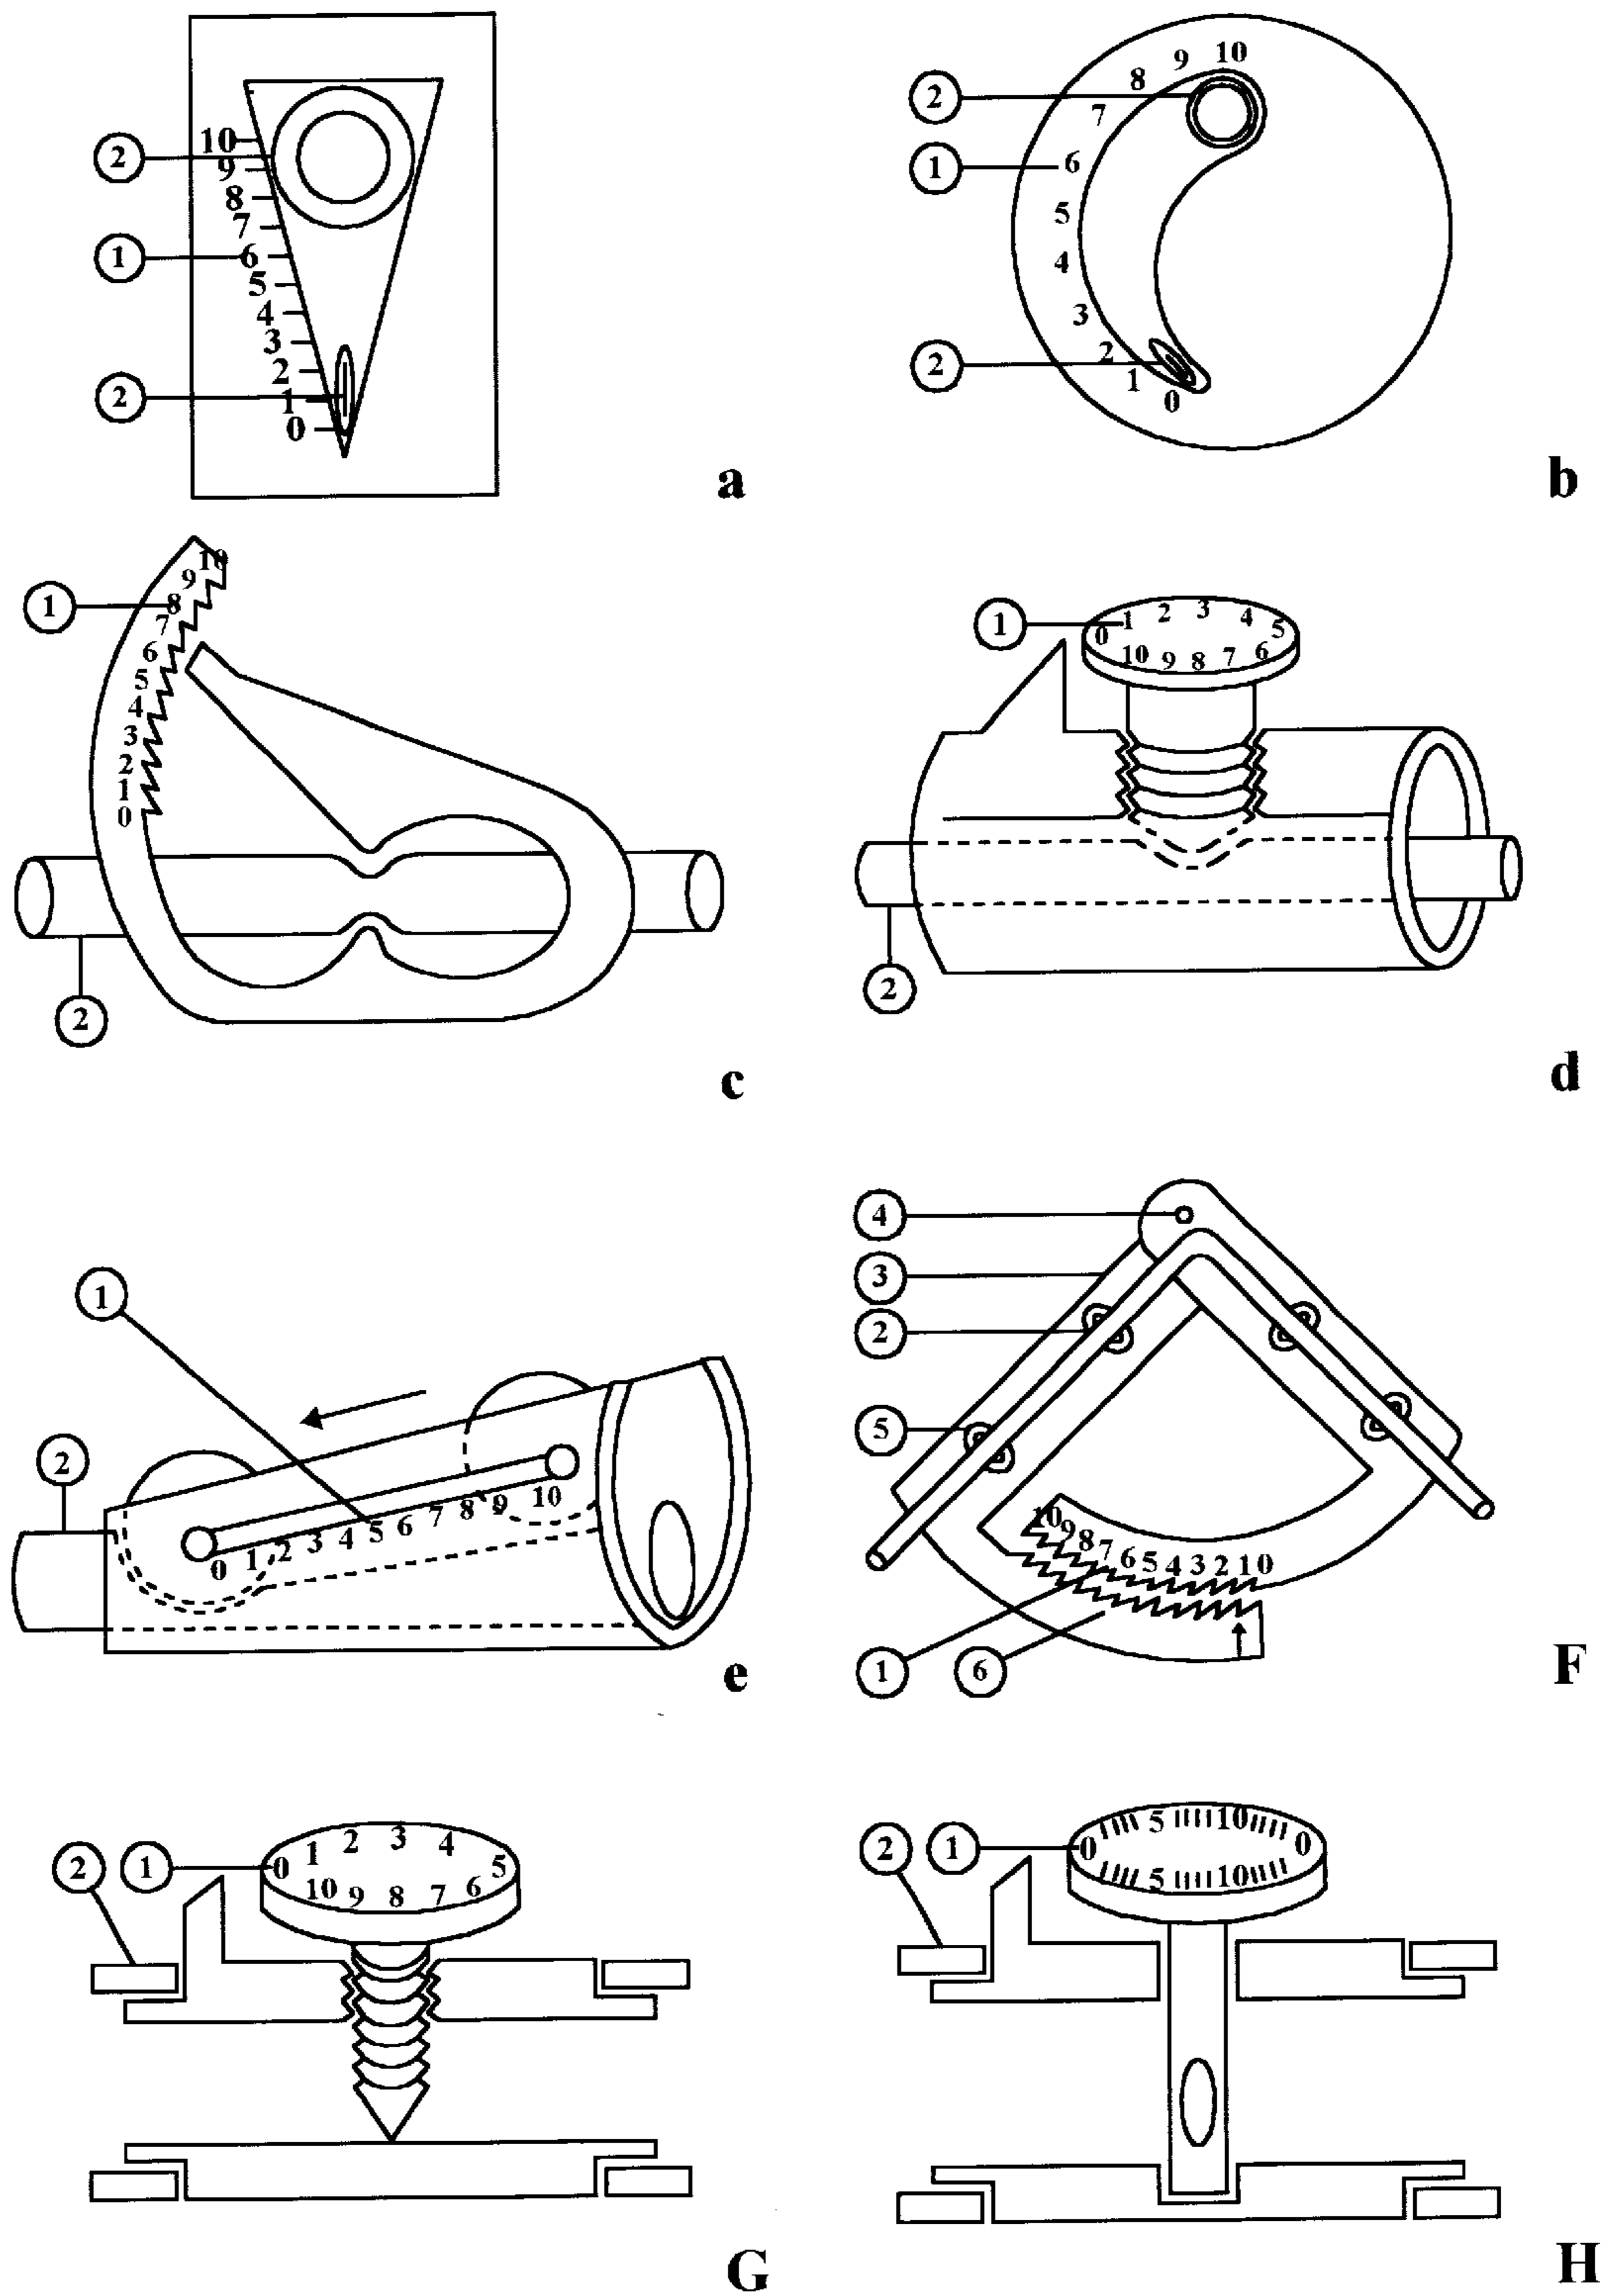

FIGURE 6
FIG. 6; structure of different forms of the compressing or obstructing portion of the valve: Forms A—straight triangular hole B—sickle shaped hole C—tooth D—external screw E—running wheel E—kinking lines. F—Internal screw G—Rotating hole. Structure Each valve has 11 graduation (1) showing the degree of closure of the valve corresponding to its effect on the diameter of the recirculation segment (2)(0=closed, 1=10% of full open diameter, 2=20% of full open diameter . . . , 10=fully open). The kinking line valve has 2 limbs (3) with a central joint (4) & clips (5) on its anterior surface to fix the line. The graduation (2) is drawn on the anterior surface of 2 toothed semicircular hands (6) which move against each other to fix the joint at the target position.